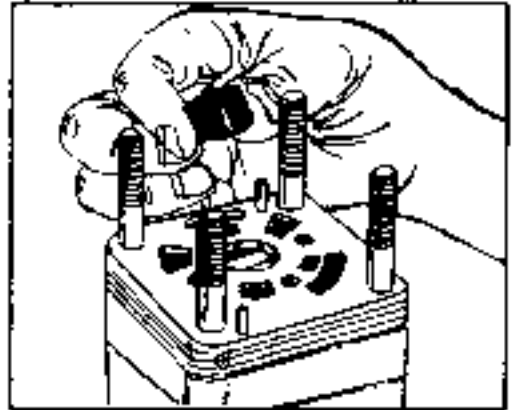

FIGURE 15.
16. Remove hex. drive assembly (10) from drive link (16). See figure 15.